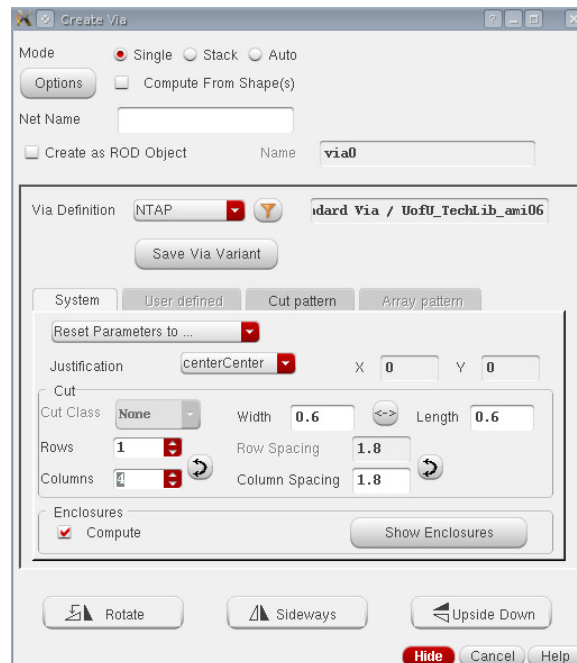
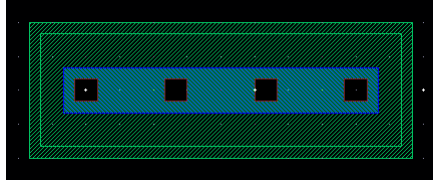

Figure 1: The Cadence Create Via menu - note the ability to array them.
Figure 2: An array of NTAP vias in a one by four configuration
- **Cell Width** The width of the cell must be evenly divided by 8λ , or $2.4\mu\text{m}$ per horizontal unit. This is the spacing that is achieved by creating an array of SUBTAP or NTAP cells, and measuring the distance between the center points of the contacts. You can array a set of vias in the Create Via menu, shown Fig. 1. In this example, there are four columns specified in the via that will create a 1×4 array of NTAP vias shown in Fig. 2. This would define a 4-unit wide cell.